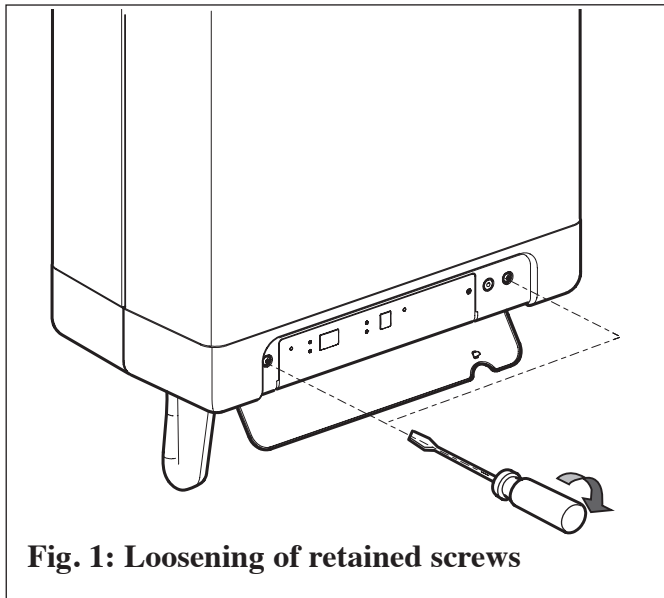

Fig. 1: Loosening of retained screws
12. Swing the bottom of the front jacket against the side panel and secure in place by tightening the retaining screws (Fig. 1).